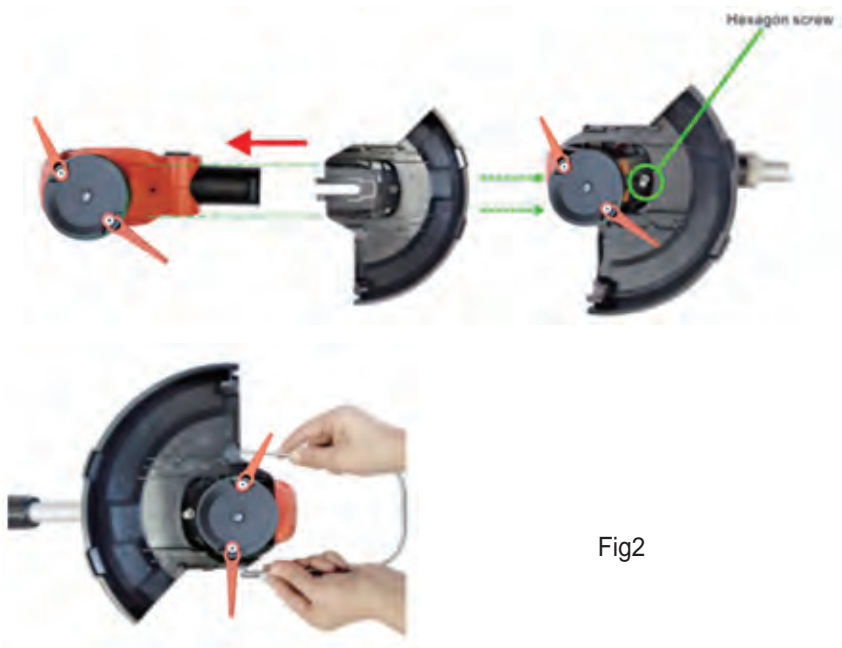

Fig2
### 9.1 Assembly the guard(fig2)
- Take out the grass trimmer ,protective guard(10) and steel wire steel(13) from box.
- Slip the protective to grass trimmer head as fig2 show ,
- Push the steel wire(13) to the protective guard(10) as fig 2 show.